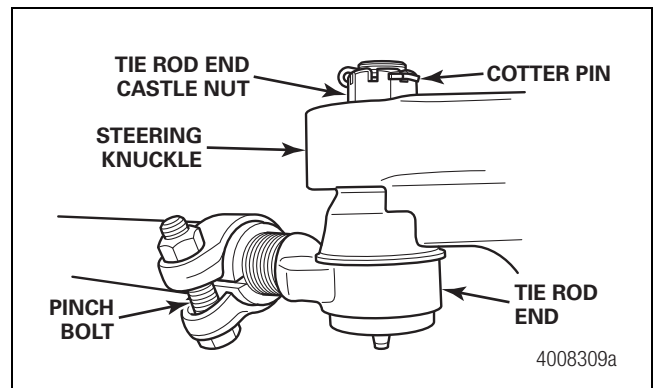

Figure 9.14
5. Install the cotter pin through the nut. Bend the end of the cotter pin over to lock it in place. Figure 9.14.